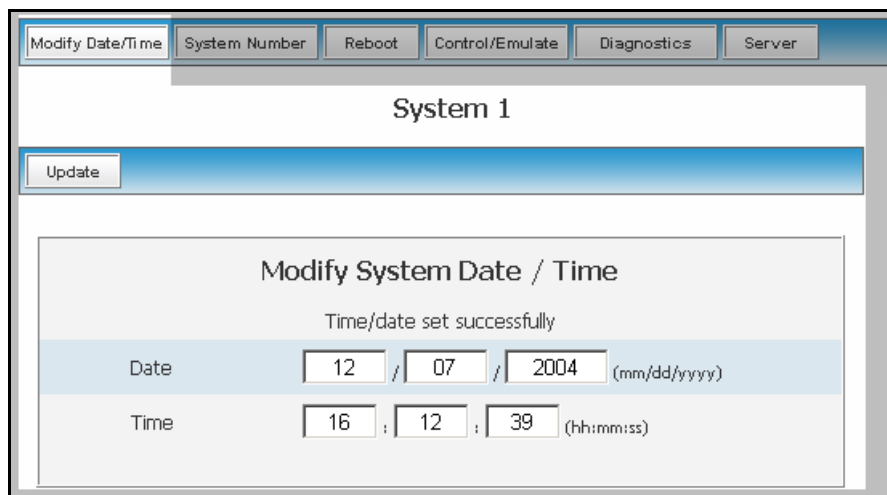

FIG. 58 Modify System/Date dialog
3. Click the **Modify Date/Time** button to open the Modify System Date/Time dialog (FIG. 58). This dialog shows the current Date and Time settings for the target Master.